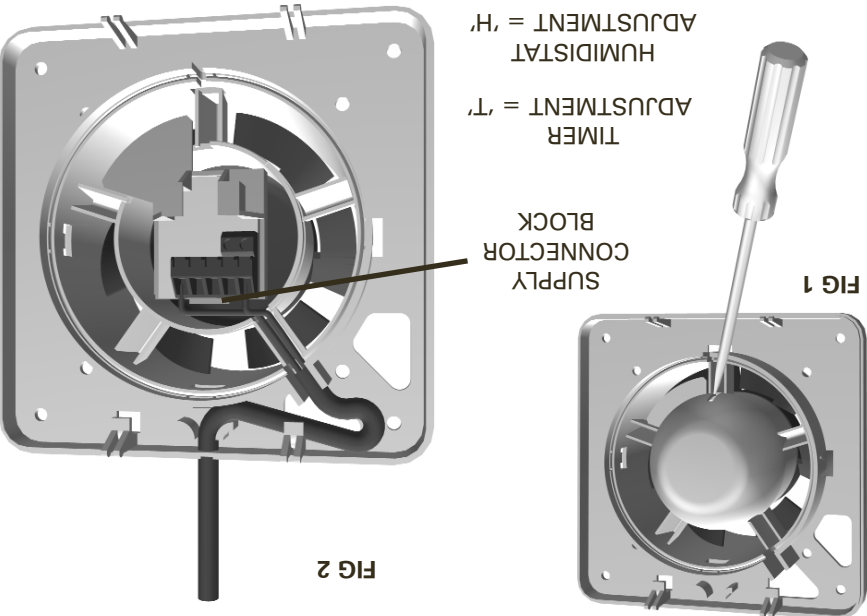

FIG 2
- Make electrical connections as per Fig 2 and wiring diagrams set out overleaf. Preferably align the cable with one of the upper spokes in the fan to ensure minimum resistance to airflow.
- Make electrical connections as per Fig 2 and wiring diagrams set out overleaf. Ensure that cable outer sheath is cut back to allow wiring to locate into one of the two upper spokes on fan unit.